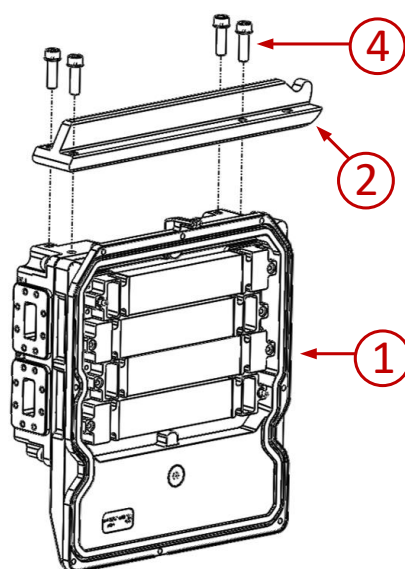

Figure 36: Right Rail Configuration
- With the nose of the rail protruding to the right when facing the inside of the OCU (Figure 36).